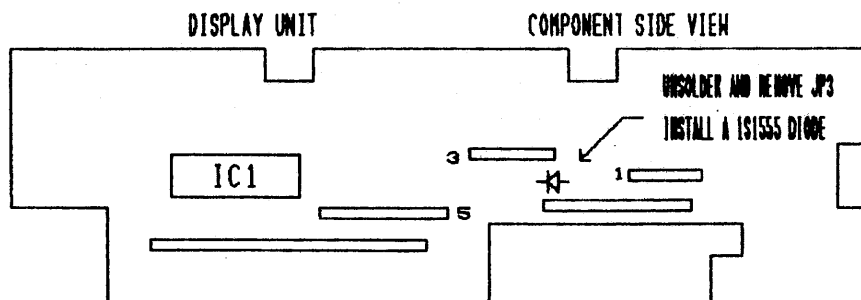

FIGURE 3
6. On the Display unit, replace jumper JP3 with a diode (part number 1S1555) as shown in figure 3.